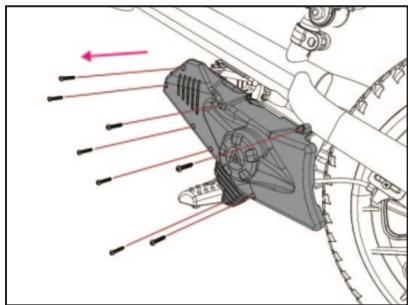

FIGURE 8
1. Remove the left side cover. [Figure 8]